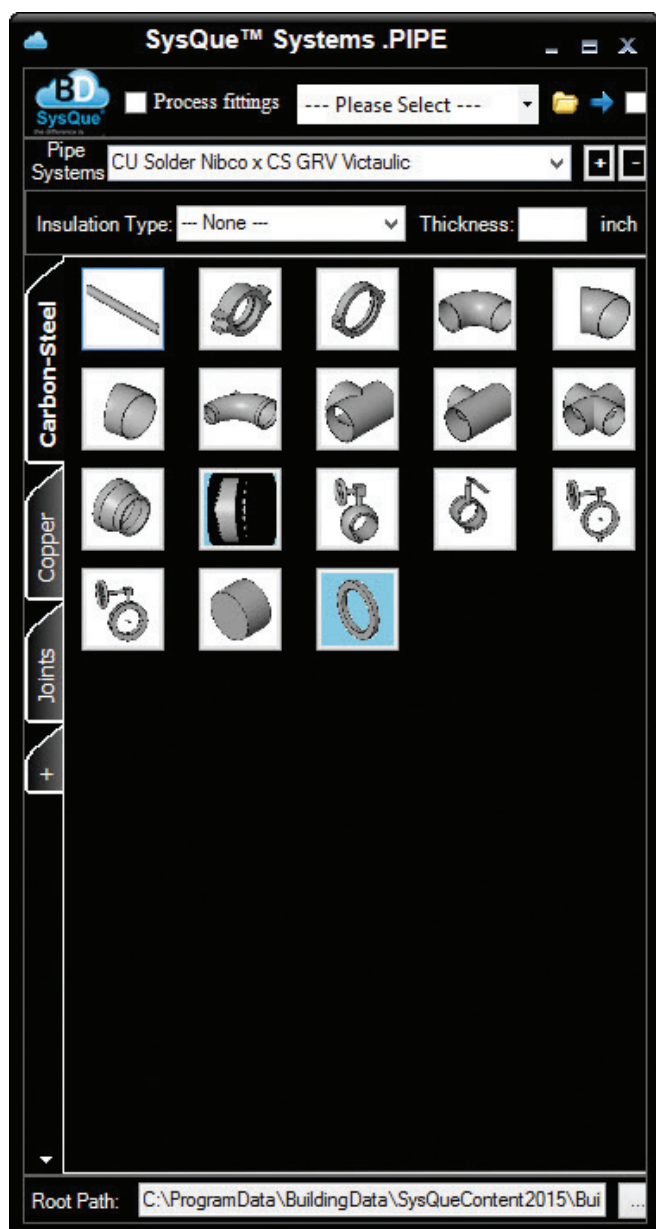

Figure 4
The API loads its content at run time. Instead of having a Revit template with every family you think you might use, the API will load only the family you select from its user interface (UI) pallet (Figure 4). This gives the user the ability to have spec-driven systems instead of a large library of fittings you need to scroll through the family browser. Having the API allow for a spec-driven interface enables more route preferences based on size, materials, and manufacturer.